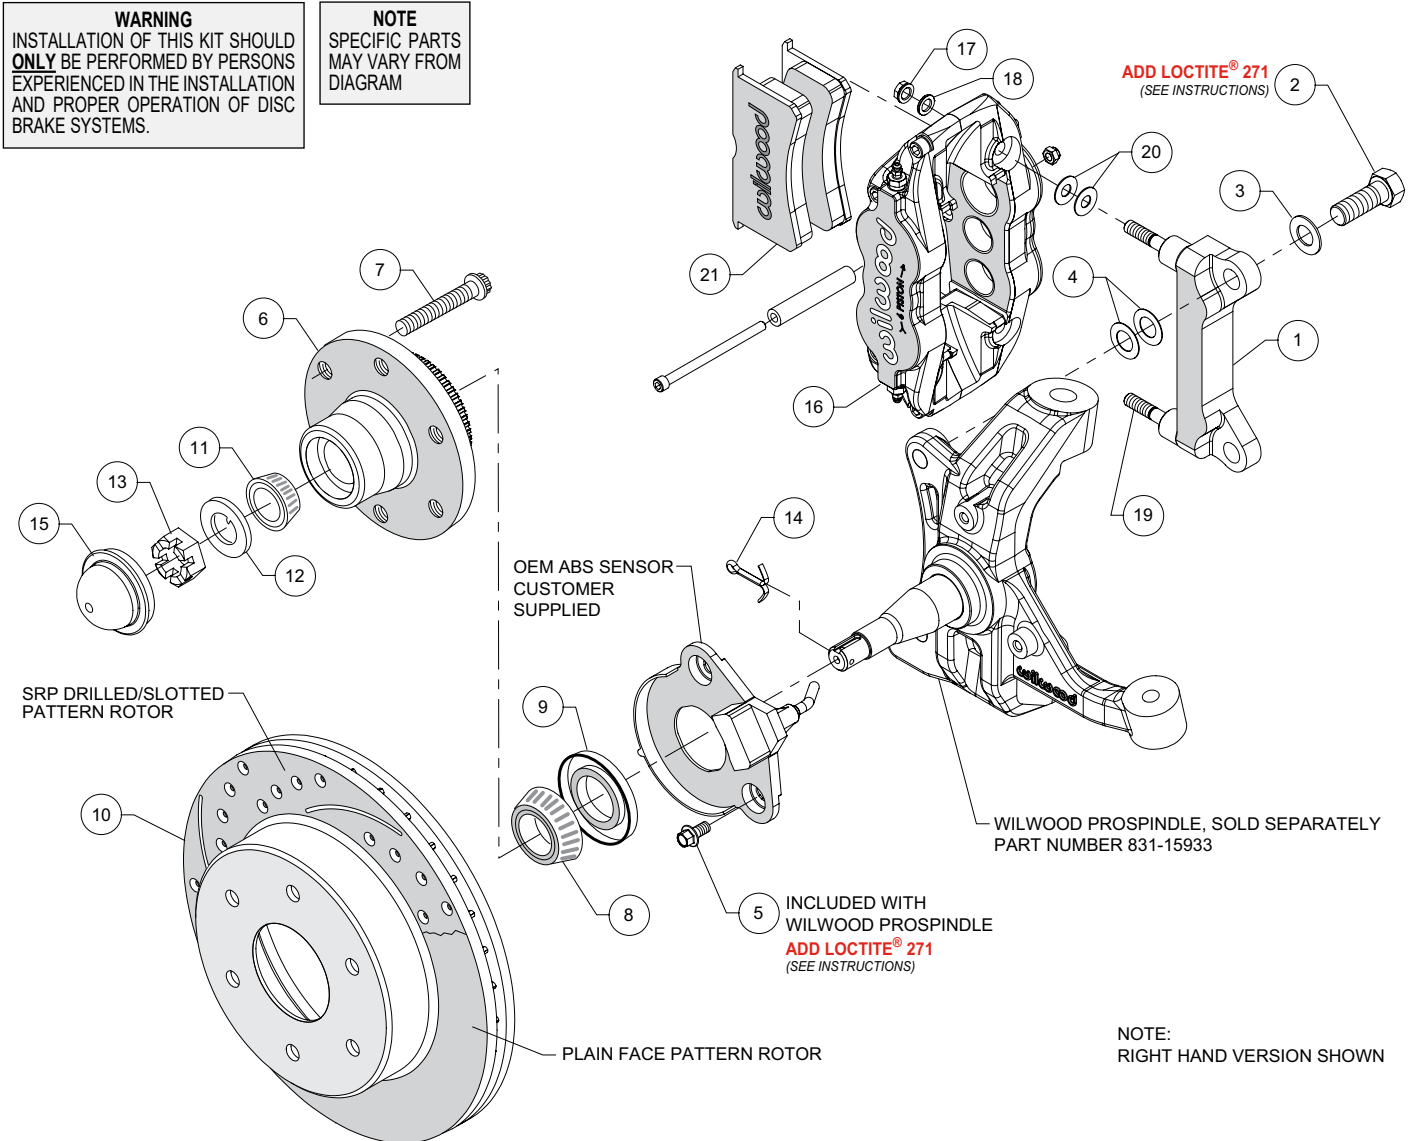

Figure 1. Typical Installation Configuration
**NOTE:** Numbers in parenthesis refer to the parts list and Figure 1 on the preceding pages.
- For vehicles equipped with ABS, install the OEM ABS sensor (customer supplied) to the spindle using bolts (5) as shown in Figure 1 and Photo 3. Temporarily tighten the mounting bolts. **NOTE: The sensor must fit squarely against the mount bosses on the spindle.** Inspect for interference from casting irregularities, machining ridges, burrs, etc. Remove the bolts one at a time and apply red *Loctite*® 271 to the threads, and torque to 20 ft-lb.
- The caliper mount bracket (1) should initially be installed with clean, dry threads on the mounting bolts. Orient the bracket, as shown in Figure 1 and Photo 4, and install using bolts (2) and washers (3). Initially place two .024" thick shims (4) on each bolt between the bracket and spindle, Figure 1. Temporarily tighten the mounting bolts. **NOTE: The bracket must fit squarely against the mount bosses on the spindle.** Inspect for interference from casting irregularities, machining ridges, burrs, etc. Later, after the caliper alignment has been checked, the mount bolts will be secured using red *Loctite*® 271.
- Install wheel studs (7) into the hub (6), Photo 5. Torque to 77 ft-lb.
- Pack the large inner bearing cone (8) with high temperature disc brake bearing grease (available from your local auto parts store) and install into the backside of the hub (6), Photo 6.
- NOTE: This kit contains distinct right and left hand calipers that must be mounted in a specific direction, as described below.** Initially place two .035" thick shims (20) on each stud (19) between the caliper and the bracket, as shown in Figure 1 and Photo 10. Mount the caliper (16) onto the bracket (1) using lock nuts (17) and washers (18), Figure 1. Temporarily tighten the lock nuts. Ensure that the caliper is mounted so that the largest pistons are at the rotor exit end of the caliper, in relation to the direction of rotor rotation. View the rotor through the top opening of the caliper. The rotor should be centered in the caliper, Photo 11. If not, adjust by adding or subtracting shims (4) between the bracket and the spindle. Always use the same amount of shims on each of the two mounting bolts. Once the caliper alignment is correct, remove the bracket mounting bolts (2) one at a time, apply red *Loctite*® 271 to the threads, and torque to 140 ft-lb.